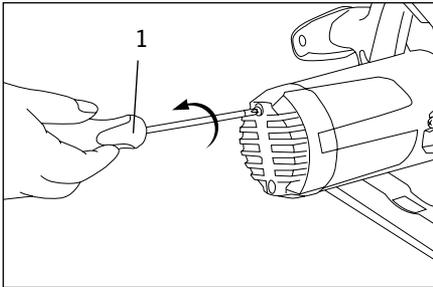

Fig. 18
1. Use a Philips (+) cross screwdriver (1) and remove the motor rear cover (Fig. 18).